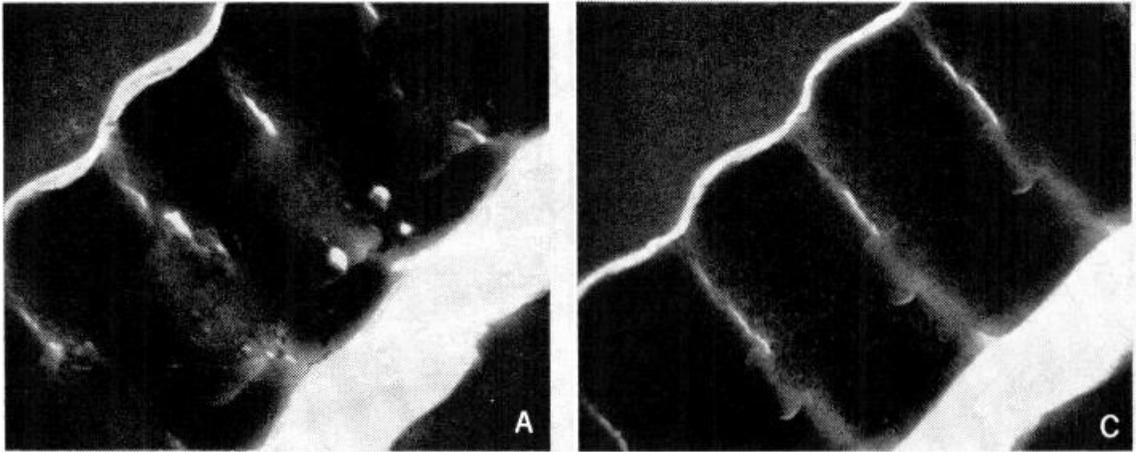
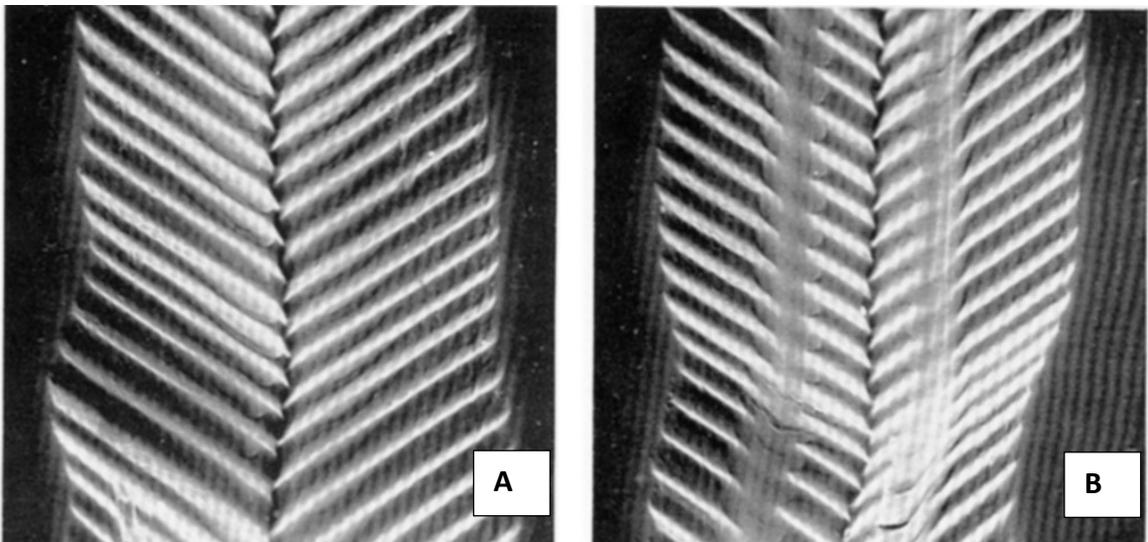

Figure 4 – Record Wear Spherical vs Elliptical Stylus – 50 Plays
Figure 5 – Record Wear Shibata vs Conical Stylus – 100 Plays
- I.6 Record wear is influenced by the stylus shape, vertical tracking force and the record material. **Figure 4** (circa 1968) shows groove wear caused by two different styluses after 50 plays obtained from *Record -Groove Wear*, J G. Woodward, *HiFi Stereo Review Magazine*, October 1968 (38): Photo A shows the wear produced by a 0.7 -mil spherical stylus tracking at 5
grams. Photo C is a 0.2 x 0.7 -mil elliptical at 1.5 grams. The wear shown in **Figure 4** is permanent plastic deformation, but very little material has actually been removed.
- I.7 **Figure 5** (circa 1976) shows record wear of a long-wearing record material developed by RCA™ for the Shibata stylus and quadrasonic sound; from *RCA Engineer Magazine*, 1976, Issue 02-03, *Development of Compound for Quadradiscs*, by G.A. Bogantz S.K. Khanna (72). Photo A is a Shibata stylus at 1.5 gram after 100 plays, showing little or no wear. Photo B shows a Conical stylus at 4.5 grams after 100 plays, showing clean trenching. But RCA™ also showed significant wear with material from another vendor after just 25 plays with a Shibata stylus at 1.5 grams and just 10 plays with a Conical stylus at 4.5 grams after 10 plays.
- I.8 One item to note is that highly contoured/profiled styluses such as Shibata can bridge the trench made by the conical or elliptical stylus allowing full fidelity playback. Otherwise, the record wear in **Figure 4** and **Figure 5** can be accelerated by the cleaning method. Solvents and some aggressive concentrated aqueous cleaners can soften by swelling the leading edge of the side-wall ridges that could cause loss of high frequency fidelity as the stylus permanently smears the leading edge with accelerations over 1,000 g's and pressures equivalent to 20,000 pounds per square inch (psi) and greater that are influenced by the stylus shape and proportional to the vertical tracking force (VTF) (*source: Disc Phonograph Records by Dr. A. M. Max, RCA Engineer Magazine 1966-08-09 (2)*). Alternately, solvents and aggressive concentrated aqueous cleaners "may" extract components of the vinyl record leading to hardening of the leading edge of the side-wall ridges that could similarly cause loss of high frequency fidelity caused by premature record wear by the stylus. See **CHAPTER X. DISCUSSION OF MATERIAL COMPATIBILITY:** for detailed discussion of cleaning agent material compatibility.